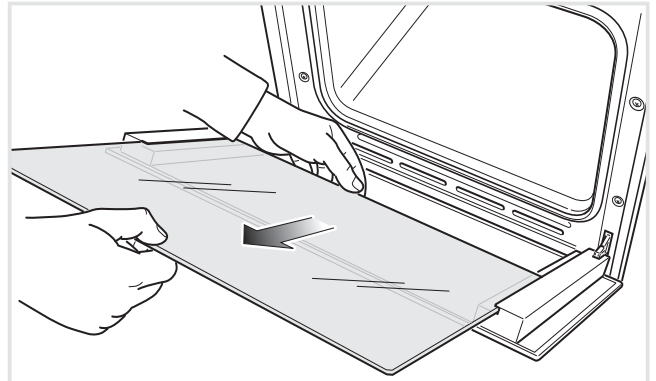

Figure 30
- Gently pull out the inner pane of glass (fig. 30).